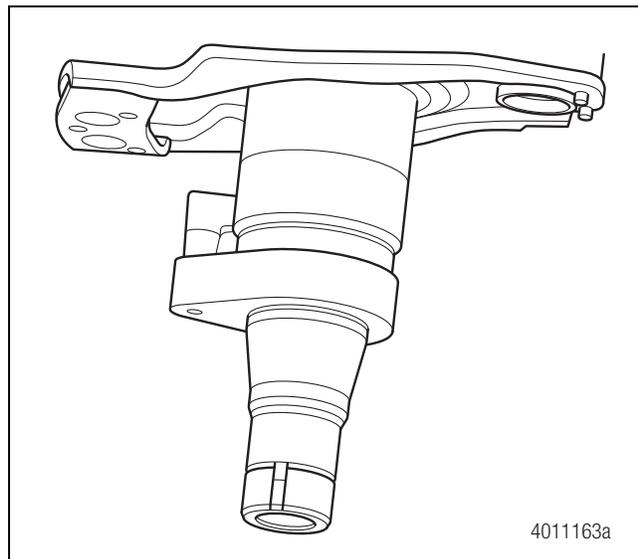

Figure 4
- Use the bracket location fixture to position the new sensor bracket. Locate the fixture sensor bracket in the nine o'clock position. Refer to Maintenance Manual 14 for additional location information. Figure 4.